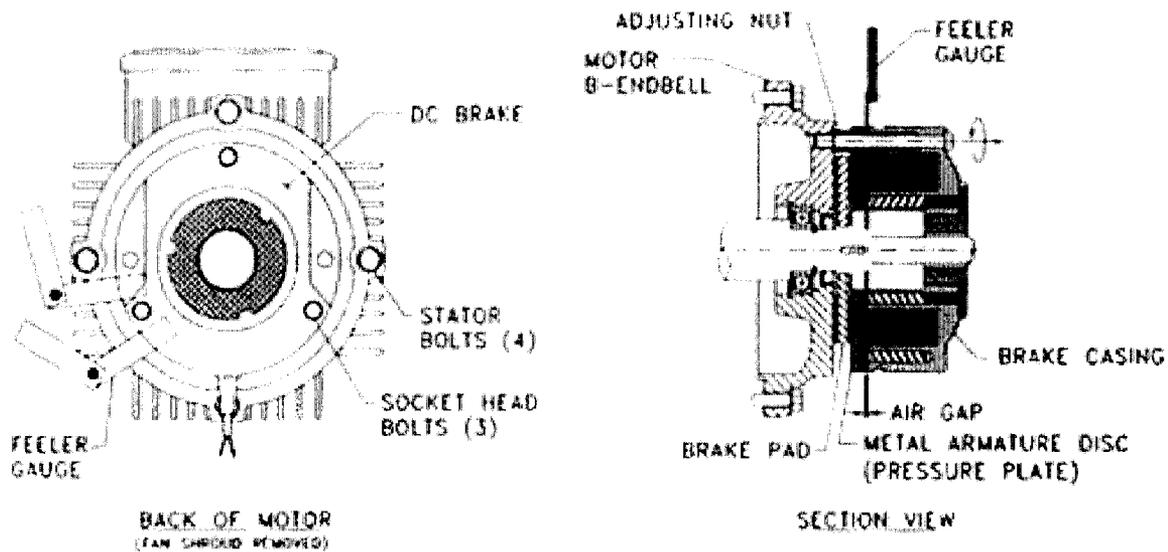

Figure 3 – Hoist Brake
- [] 8.5.2 **MEASURE** Hoist Brake air gap around socket head bolts (refer to Figure 3).
THEN LOOSEN socket head cap bolt attaching brake to motor B-endbell (refer to Figure 3).
- [] 8.5.3 **MEASURE** thickness of magnetic disc brake pads (refer to Figure 3).